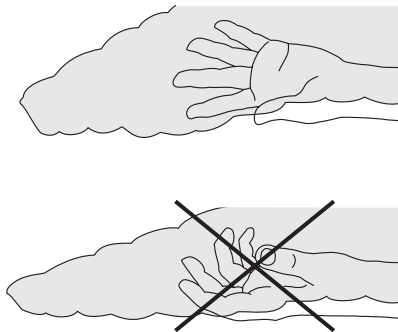

Figure 4—Place hand, flat and palm up, between pad and mattress
- With patient on his or her back, slide your hand, flat and palm up, between Paradise Pad and mattress. Your hand should be directly under the pad that is under the patient's buttocks (or other boney area). See figure 4.